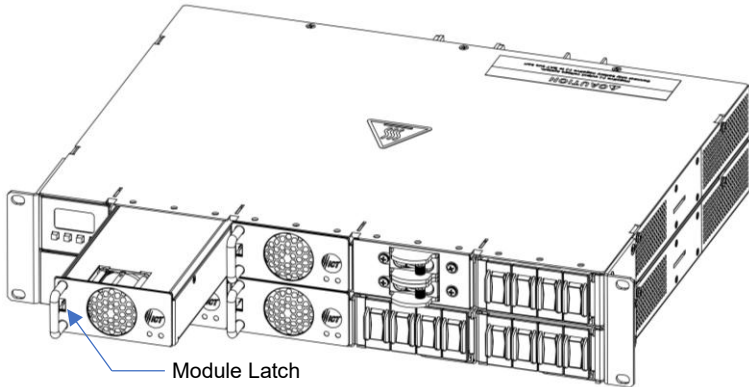

Figure 15. Installing Power Module in an MPS Ultra 2
**NOTE:** The Power Modules can be easily removed by pressing the release latch to the right while firmly pulling the module from the unit (the system may remain powered while swapping modules). The latch is located under the module handle (see Figure 15).